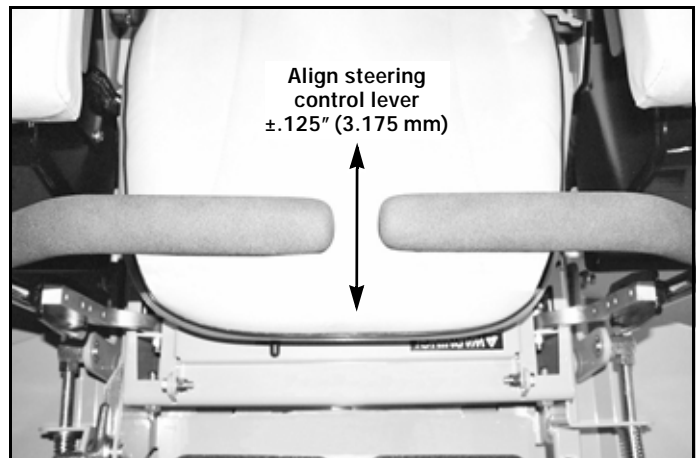

Figure 4-9
- The steering control levers should be adjusted so that they align vertically with each other when in the neutral position. Figure 4-9